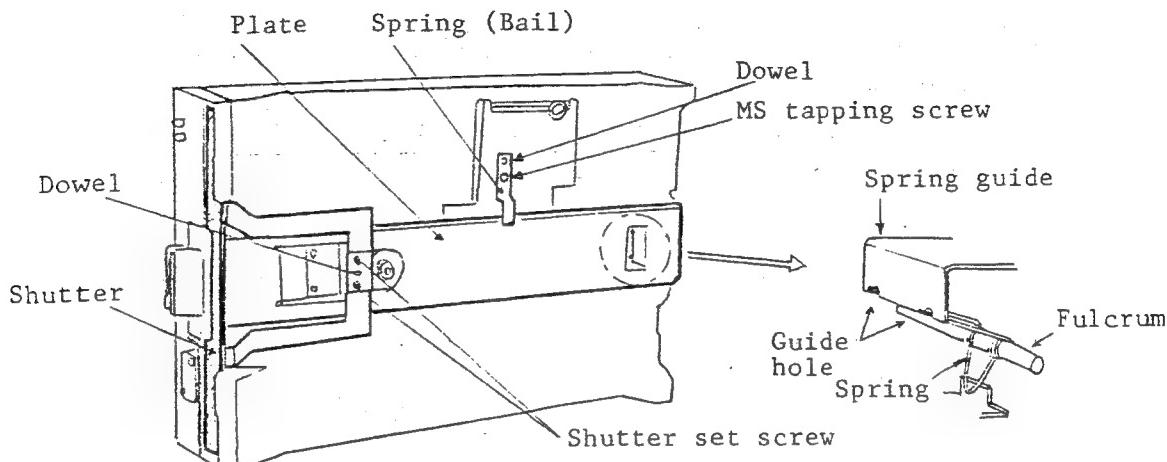

Fig. 4.2 How to Open/Close Plate
(1) Tools and measuring instruments to be used:
(2) Disassembling
- (b) Remove shutter get screws ($M3 \times 2$), and dismount the shutter by pushing it to the left (Fig. 4.2).
(3) Assembling